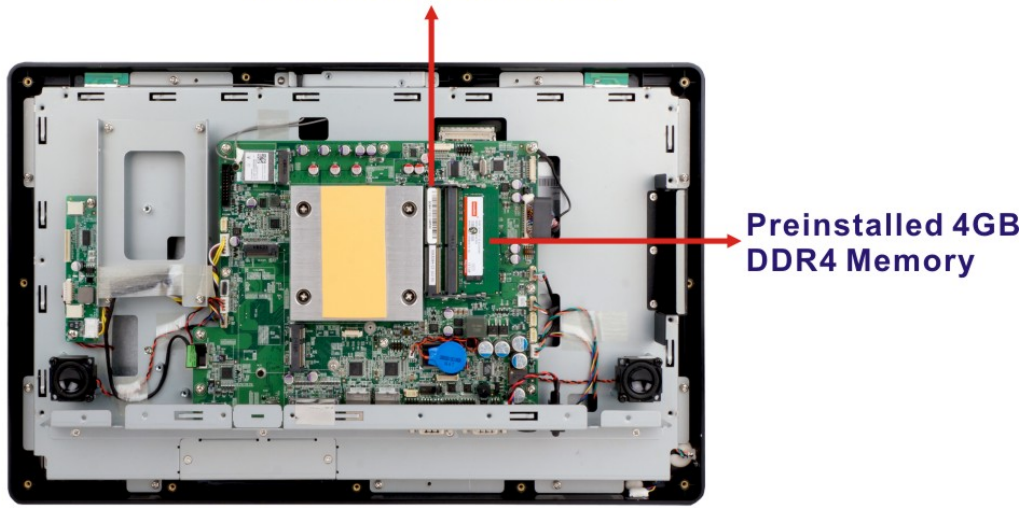

Figure 5-1: SO-DIMM module Location
- Step 4:** Locate the SO-DIMM module (**Figure 5-1**).